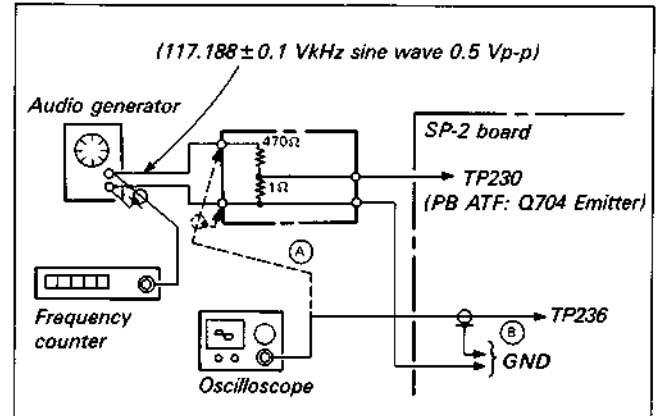

Fig. 8-7.
Signal	See Fig. 8-7
- 1) Check the output level of the audio generator with an oscilloscope and adjust so that the sine wave output level becomes $0.5 V_{p-p}$. (Fig. 8-7 (A))